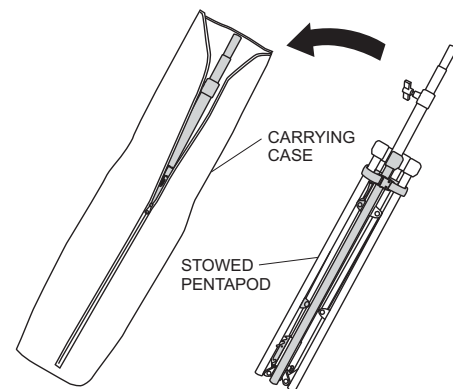

Figure 34. Storing in Carrying Case
11. Place the stowed pentapod inside the carrying case. See Figure 34.